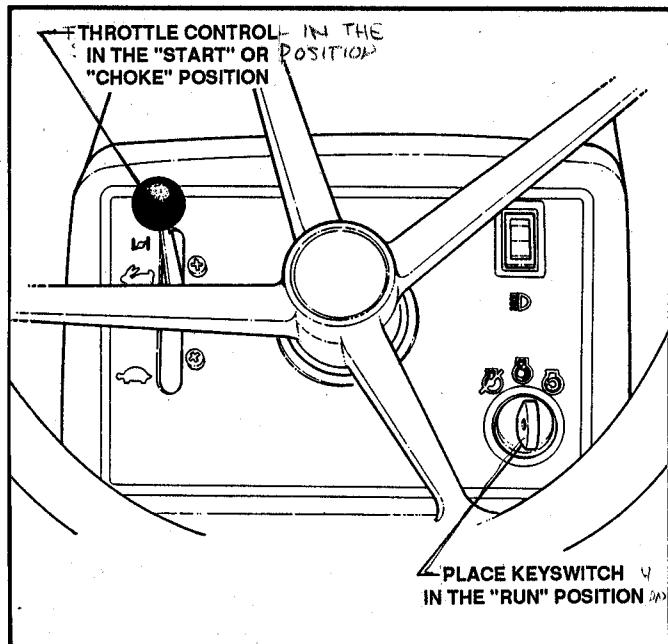

FIGURE 6.2
- A. Be certain ignition switch is in the "RUN" position and the throttle control is in the START position. See Figure 6.2.